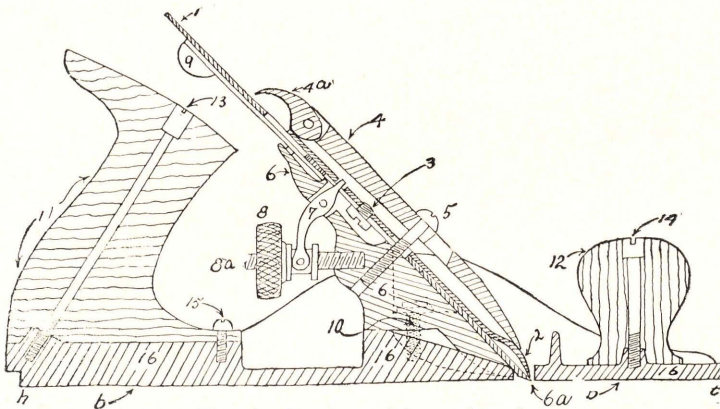

Fig. 6. Section of iron plane.*
The adjustment of the modern plane may be understood by a careful study of Fig. 6 and by comparing it with the plane itself. The cutter iron or bit (1) and the cap iron (2) are the essentials of the tool and it is upon their condition and adjustment that the efficiency of the plane depends. If the cap iron is set too far from the edge of the iron and